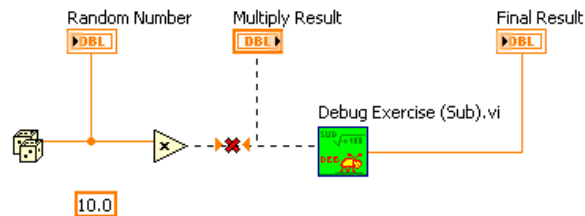

Figure 2.36
1. Select **Window**»**Show Block Diagram** to display the block diagram shown in Figure 2.36.